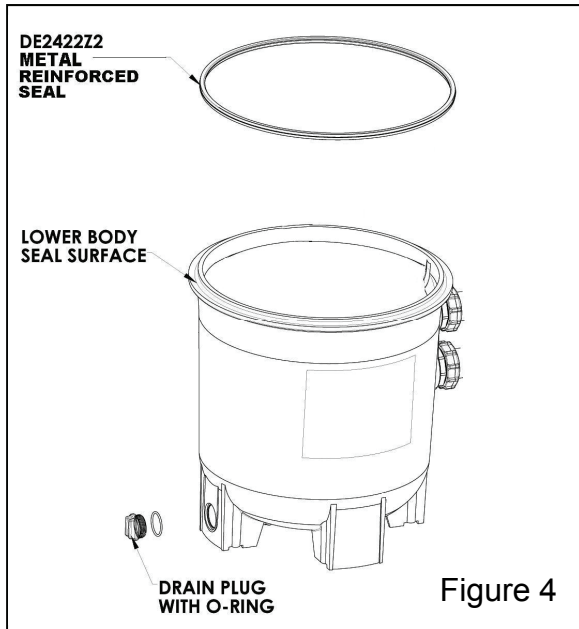

Figure 4
2. Close filter drain. Note: Filter plug requires an o-ring seal. (See Fig 4)
4. Remove filter drain plug (FIG 4) and drain water from filter.
2. With a clean cloth wipe the lower filter body seal surface. (Fig 4) Do not use a solvent.
1. Place the metal reinforced seal on the lower filter body (Fig 4). Place the upper filter body on the Hayward DEX2422Z2 metal reinforced seal and lower filter body in a position which allows all operation and safety labels to be clearly visible and the upper body to be centered on the lower filter body. Press down firmly and evenly to set the upper filter body. (Fig 7)